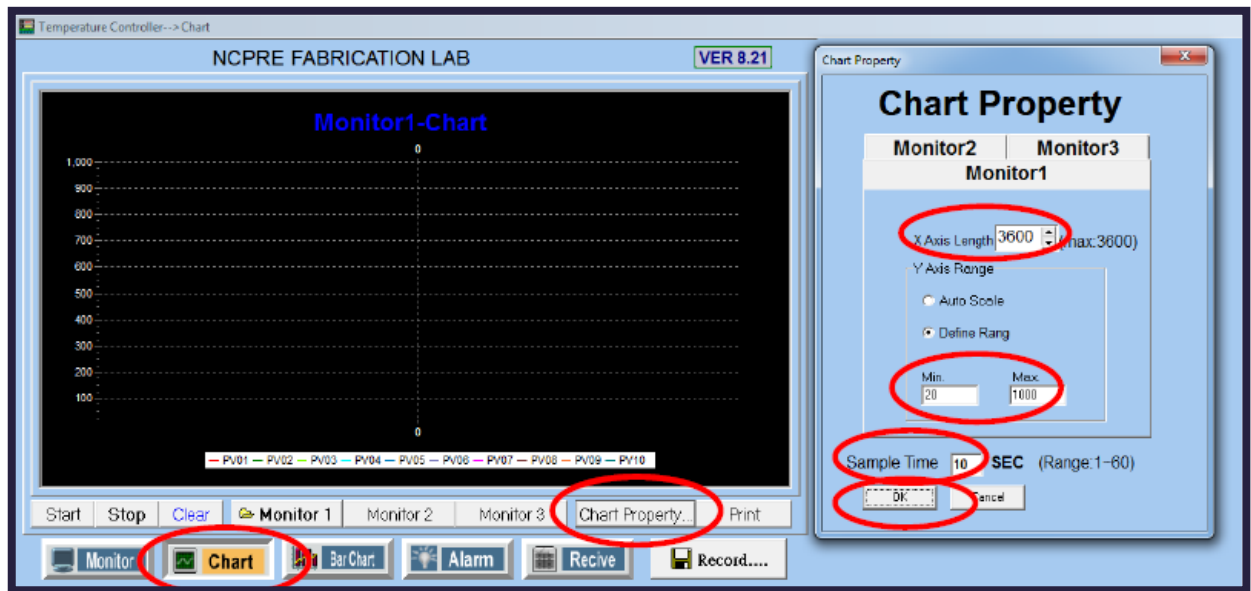

Figure. 24
13. Once the recipe/program starts, it can be recorded in the text file and also can be viewed in the chart. Click on the "Chart" and then on the "Chart Property" to set the Axes(Figure. 24).